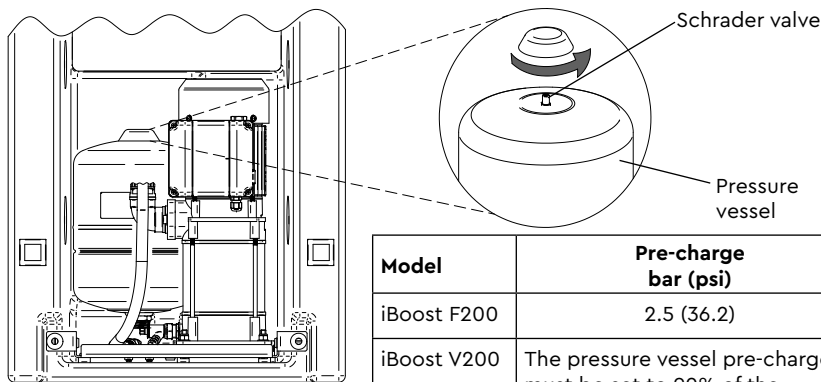

Fig. 17
- e) Check pre-charge at Schrader valve (Fig. 17) using a tyre pressure gauge.
- f) Replenish pre-charge by injecting air into the vessel via the Schrader valve using a car or bicycle pump (Fig. 17).